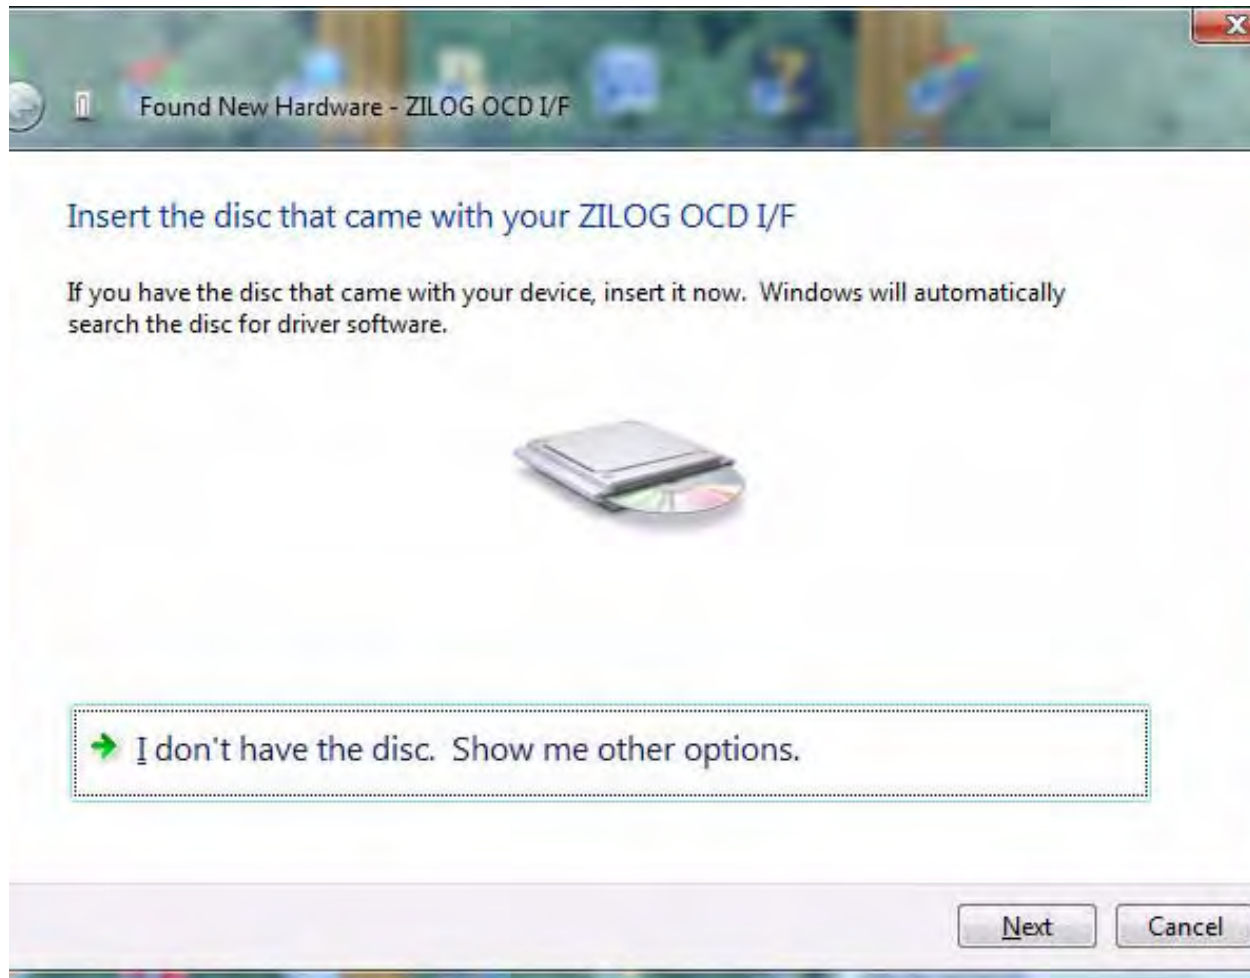
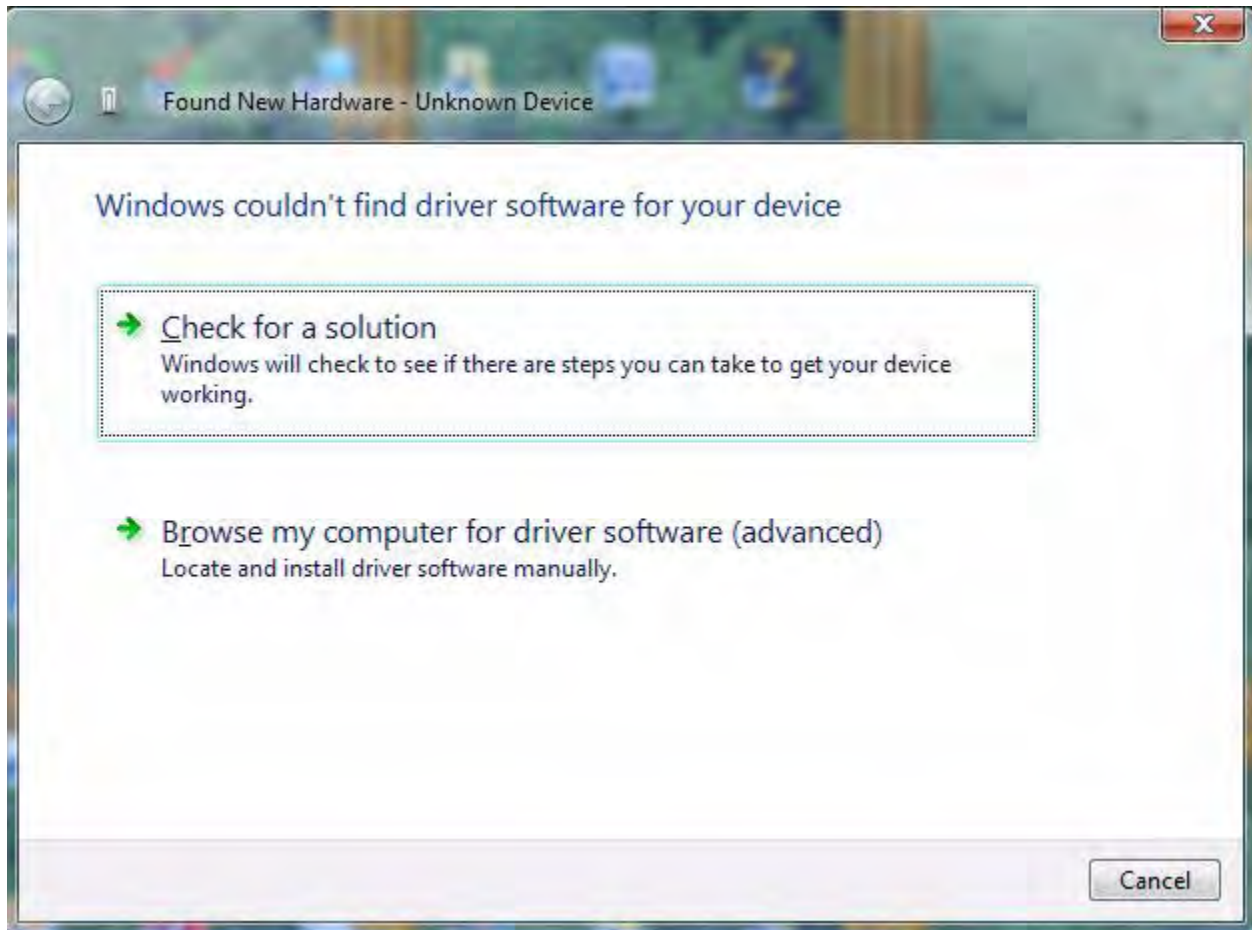

Figure 25. Install Device Driver Dialog, Windows Vista
Figure 26. Couldn't Find Driver Dialog, Windows Vista
4. When the **Insert the Disc** dialog appears, as shown in Figure 25, select **I don't have the disc. Show me other options**. Click the **Next** button to display the dialog that follows, which is shown in Figure 26.